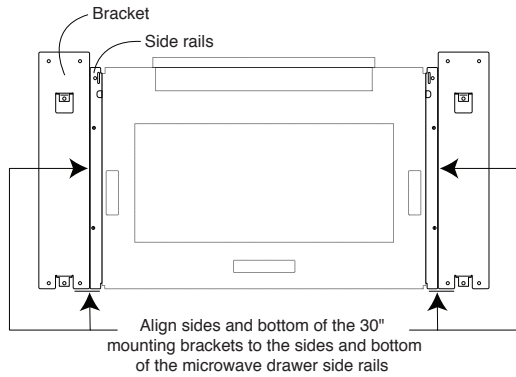

Figure 5
8. Open the drawer to properly align brackets to microwave side rails. See Figure 5.